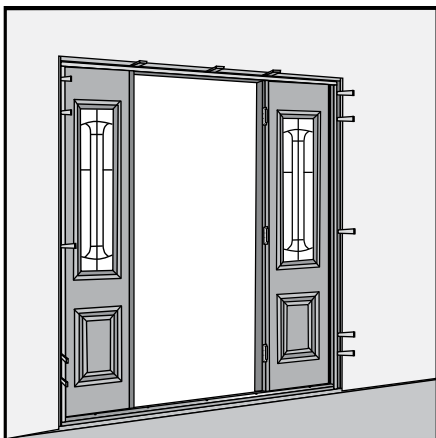

Fig. 22
### B. SYSTEMS 4 & 5 (**Fig. 22**); additional shimming as follows:
- Anchor jamb legs by driving a minimum of two 3" finish nails through the exterior face of the jamb into the stud at both 2" and 30" from the top and bottom of the unit (**Fig. 28**). Refer to **Fig. 22** for nailing locations. Additional anchoring locations may be necessary depending on size of the unit.